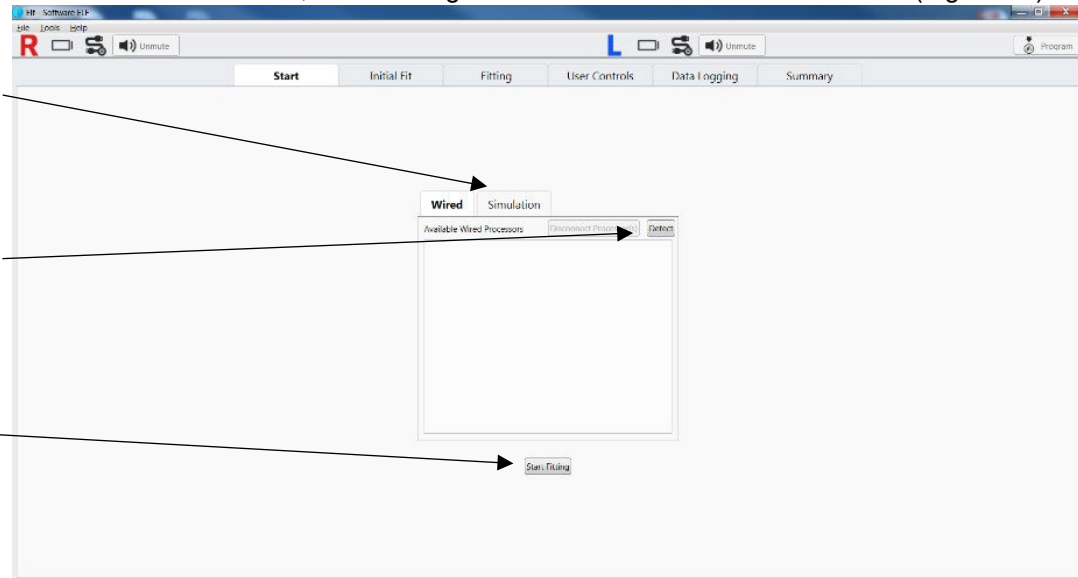

Figure 10: Start screen
- **Start:** Detect Processors, start a fitting session and access Simulation mode (Figure 10).